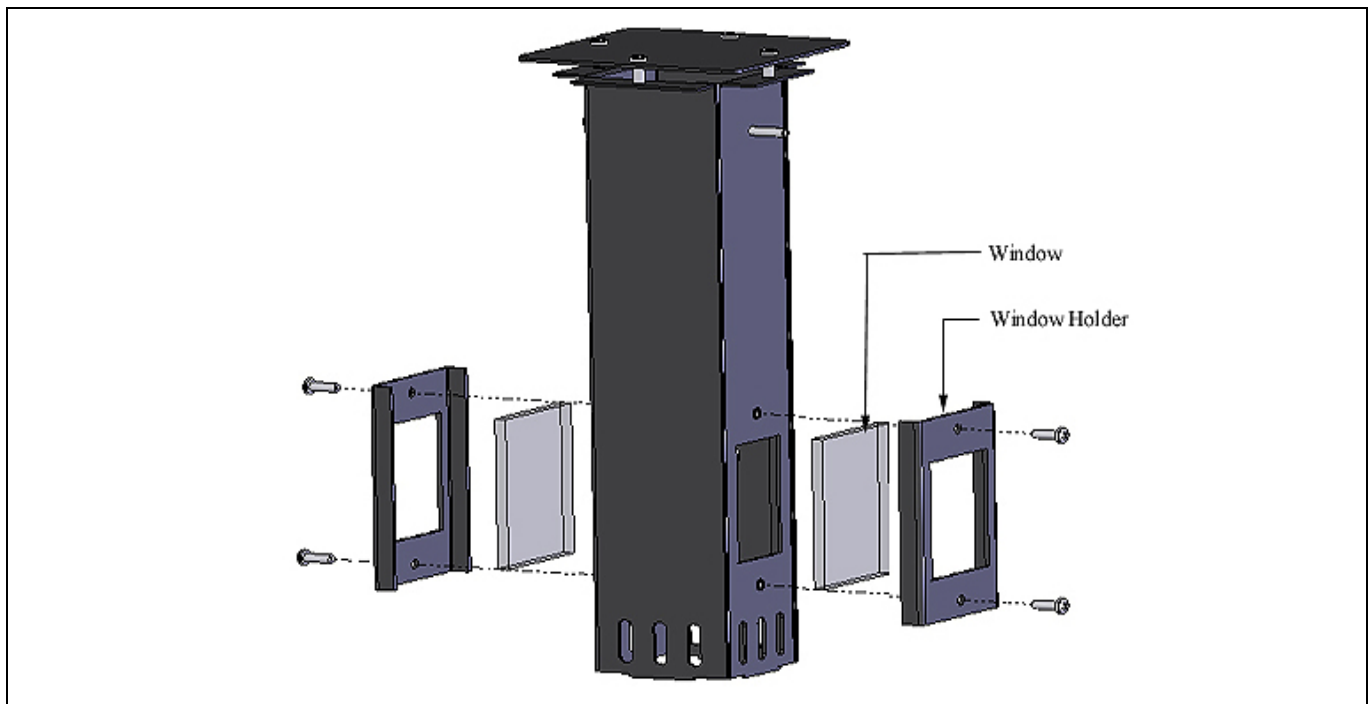

Figure 7.5
- Remove the Chimney Windows from the Inner Chimney by undoing the screws on the Window Holders. See Figure 7.5.